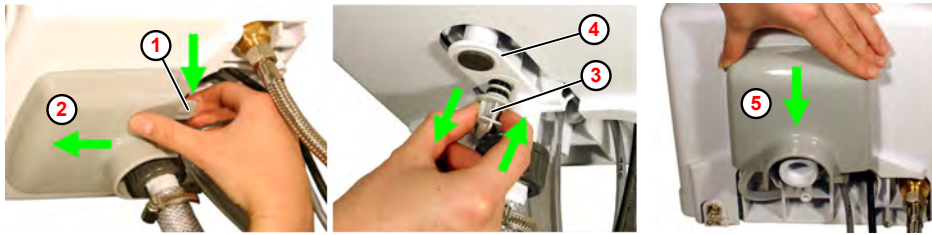

Fig. 13: Funnel lock
1. ➤ Pull the safety latch ( Fig. 13 , ① ) downwards.
2. ➤ Slide the funnel lock ② forwards/remove.